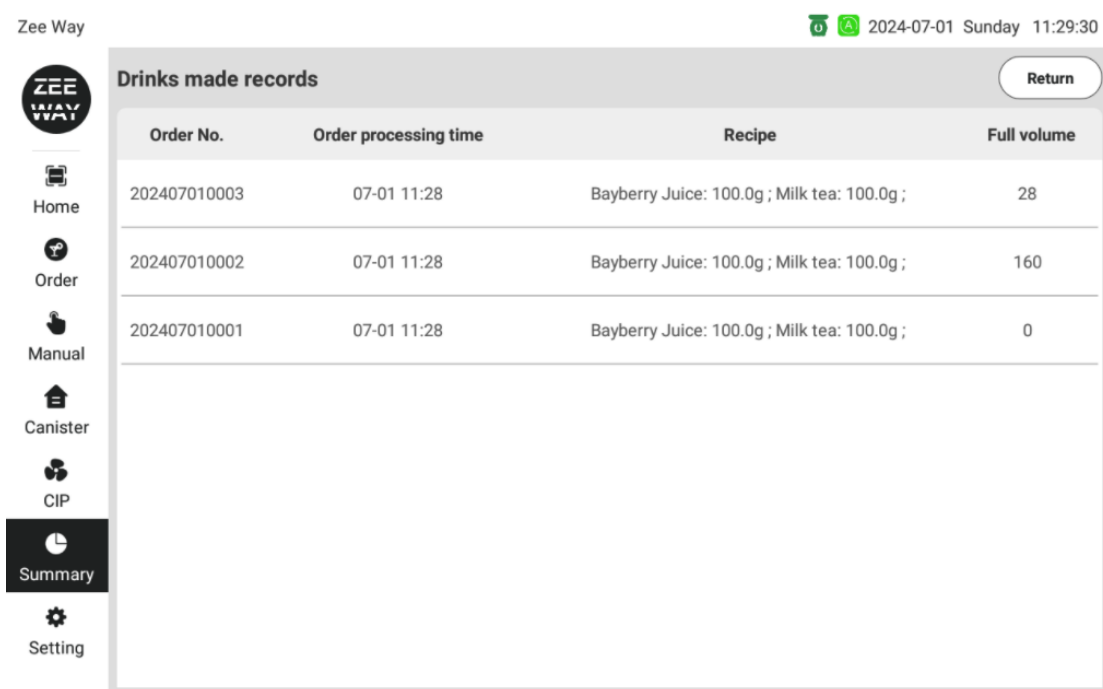

Fig. 4.8
- **Reset:** After the machine is powered off, if the tubes filling operation has been carried out, click Reset to enable the machine to run normally. (Fig. 4.8)